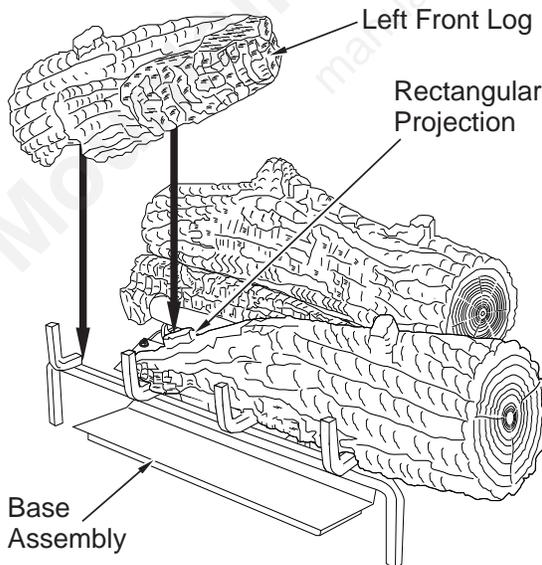

Figure 36 - Installing Left Front Log
- Place the left front log onto the base and the right front log as shown in **Figure 36**. The left front log has a notch on the bottom that will line up with the projection on the right front log.